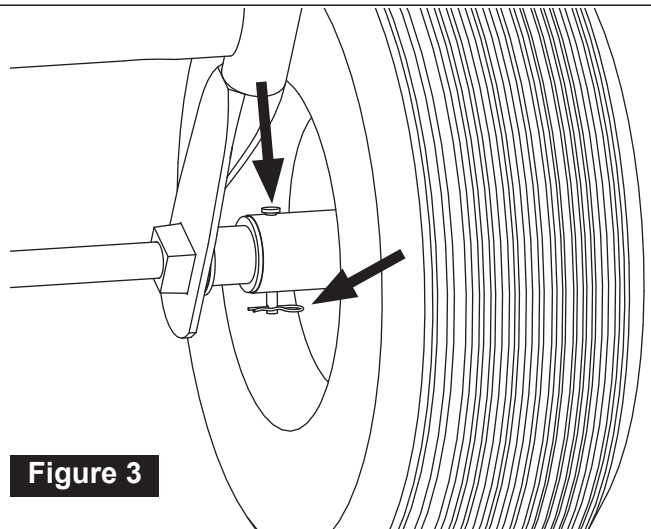

Figure 3
5. On the drive side of the axle, insert the small clevis pin through the holes in the wheel and axle, Figure 3.